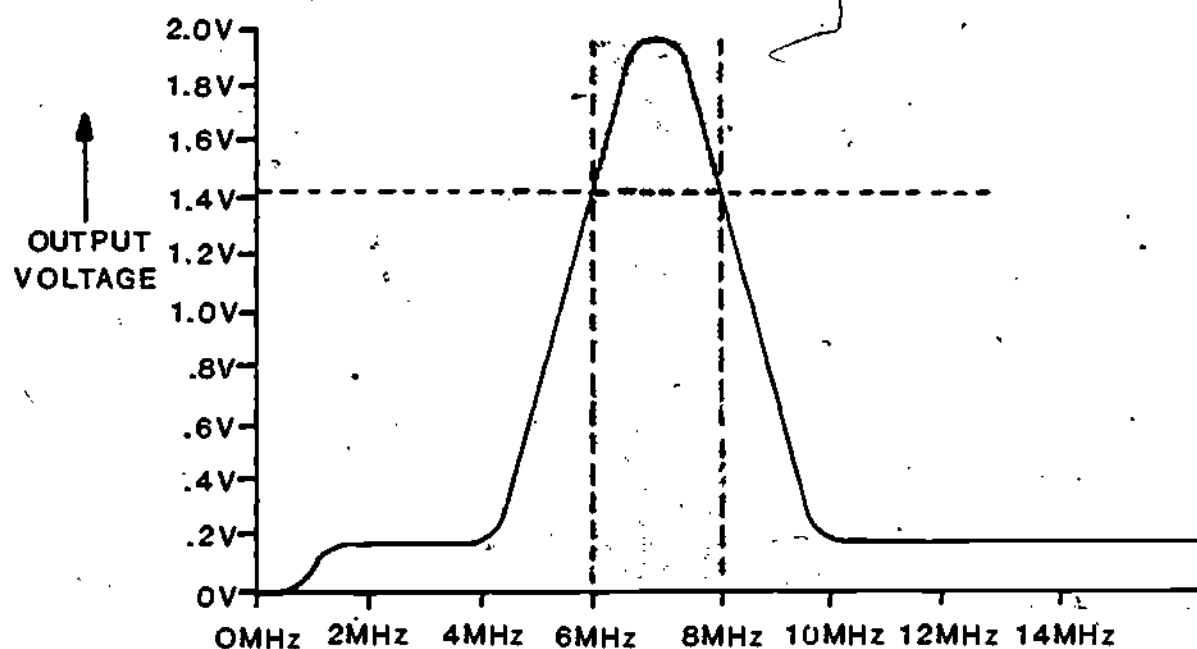

Figure 6
8. THIS IS A TEST FRAME. ANSWER THE TEST QUESTIONS AND COMPARE YOUR ANSWERS WITH THE ANSWERS GIVEN AT THE TOP OF THE PAGE FOLLOWING THE TEST QUESTIONS. REFER TO FIGURE 6. STUDY THE FREQUENCY RESPONSE CURVE FOR AN AMPLIFIER WITH A GAIN OF 5 AND AN INPUT VOLTAGE OF .4 VOLTS, IN ORDER TO ANSWER THE QUESTIONS THAT FOLLOW.